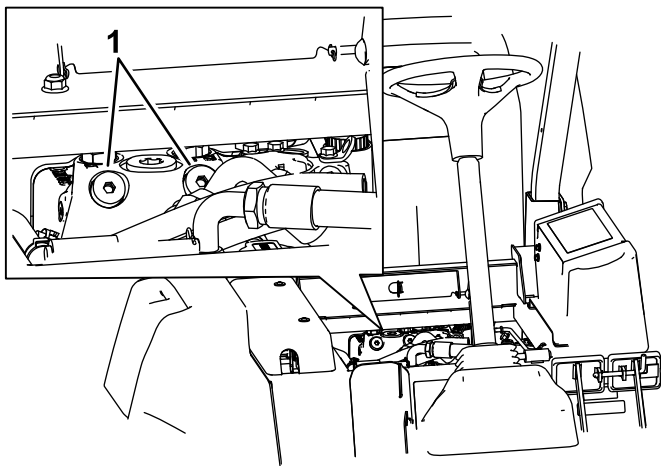

Figure 37
1. Raise the seat and locate the bypass valves, which are located below the front of the fuel tank (Figure 37).